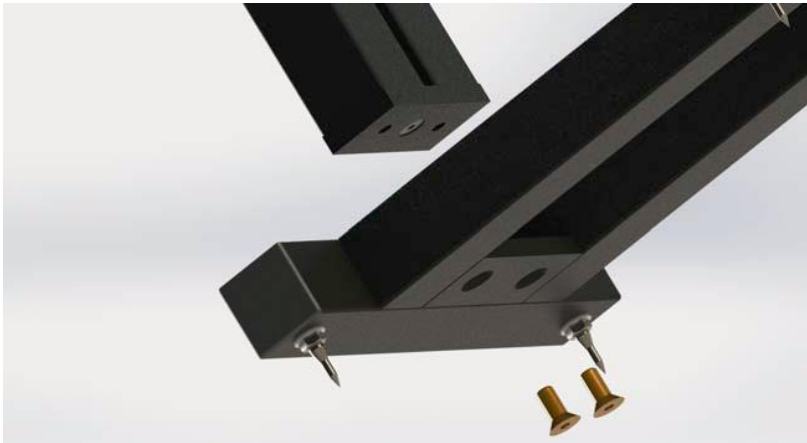

Figure 1
1. Fasten the base to the upright using 2ea 7/16-14 x 1 Flat Head Cap Screws as shown in Figure 1.